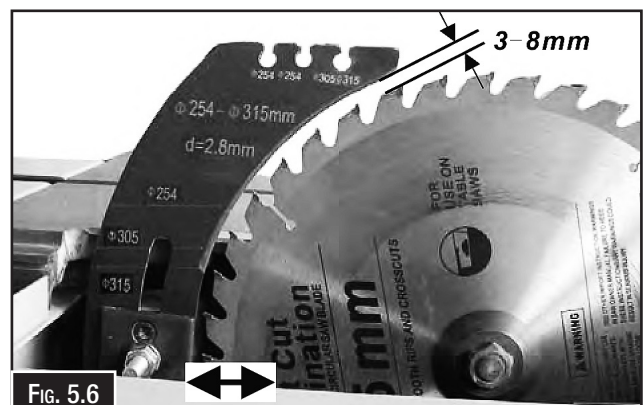

Fig. 5.6
5. Remove the currently installed riving knife and install the correct riving knife. (Fig. 5.6)